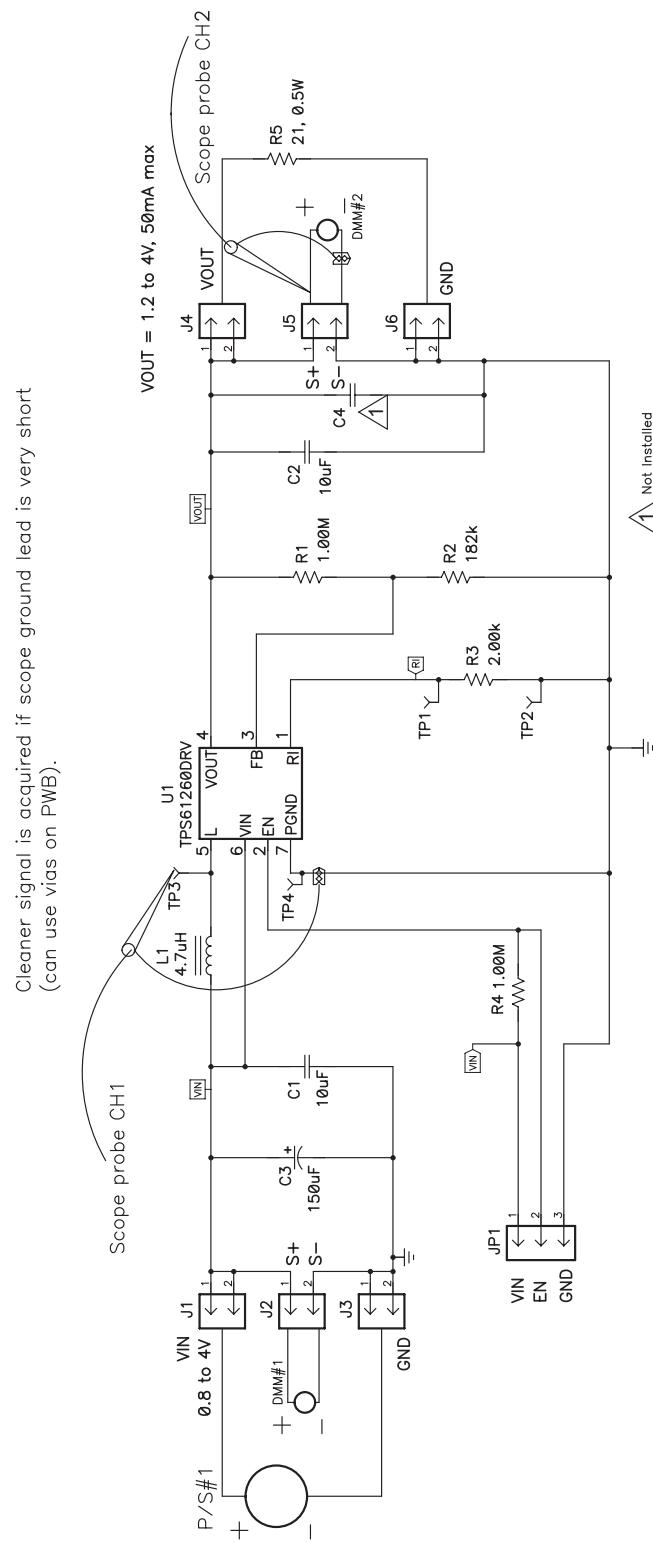

Figure 1. EVM Schematic and Evaluation Setup
Connect the meters, scope probes, output load, shunt, and input power supply as listed in Table 1 or shown in Figure 1. Set scope to 200 ns/div, positive trigger, dc-coupled on CH1, 1 V/div; CH2: ac-coupled and 10 mV/div. Additional channels can be added or probes can be moved to view Vin and Ven. The resistive load can be replaced with a system load or decade load box to vary the load between 1 k Ω and 33 Ω .
1. Make sure that the EVM is set up according to Table 1 and Figure 1, and that the power supply is preset to 1.5 Vdc at ~350 mA current limit.